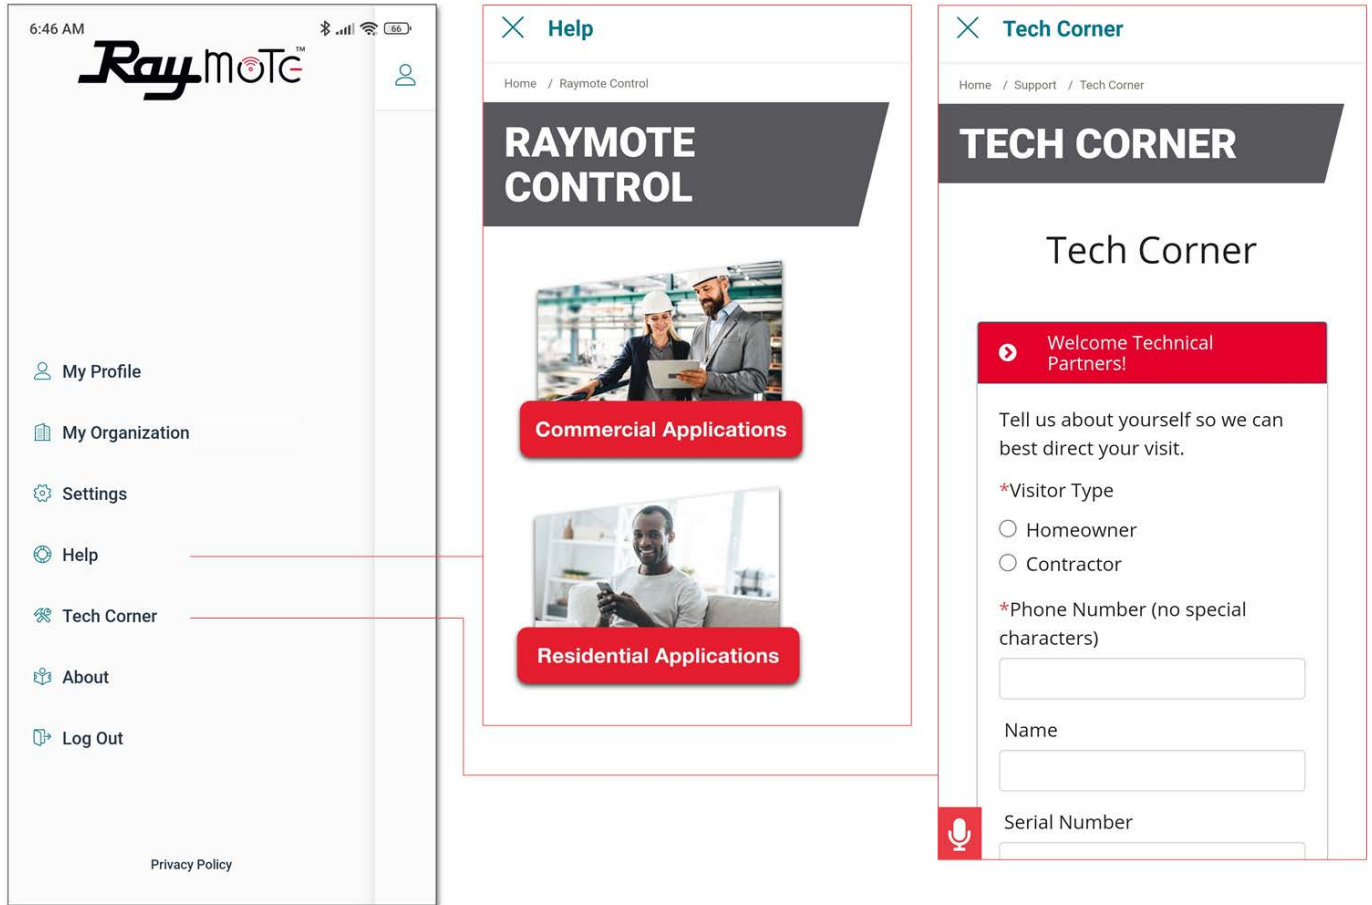

Figure 83. Help and Tech Support
- In-App access to Raypak Tech Corner collection. You can find here detailed instructions for Raypak products and service kits. See Figure 83.